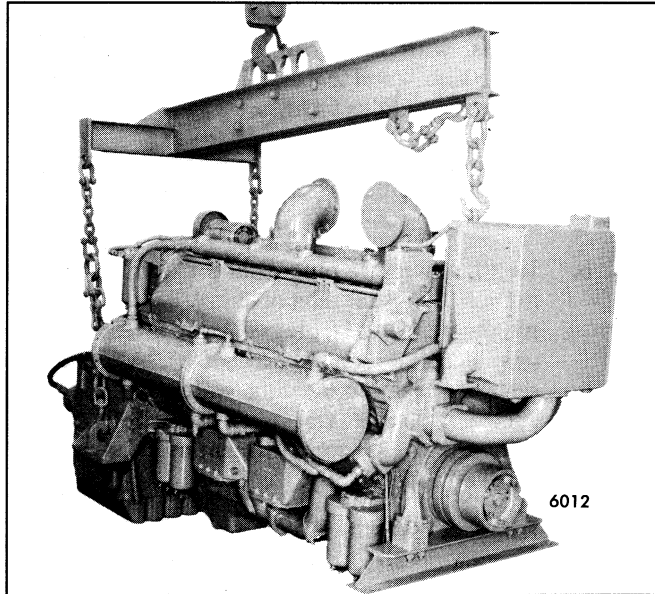

Fig. 3 - Lifting Engine with Spreader and Sling
16. Use a spreader bar with a suitable sling and adequate chain hoist to lift the engine from its base (Fig. 3). To prevent bending of the engine lifter brackets the lifting device should be adjusted so the lifting hooks are vertical. To ensure proper weight distribution, all engine lifter brackets should be used to lift the engine.